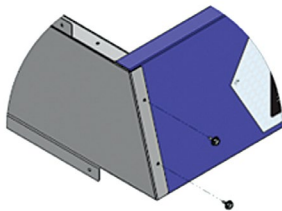

Figure 4: Secure rear panel to side panel with supplied No. 10 x 3/8" screws
3. Secure the rear panel to the side panel using the supplied No. 10 x 3/8" screws in the aligned pre-drilled holes as shown in **Figure 4**.